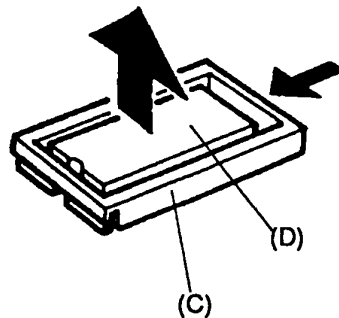

Figure 4-41 Removing the BIOS ROM plate
4. Slide the BIOS ROM plate (C) toward the notch on the BIOS ROM (D) until it clicks. Then lift the plate up from the system board (Figure 4-41).